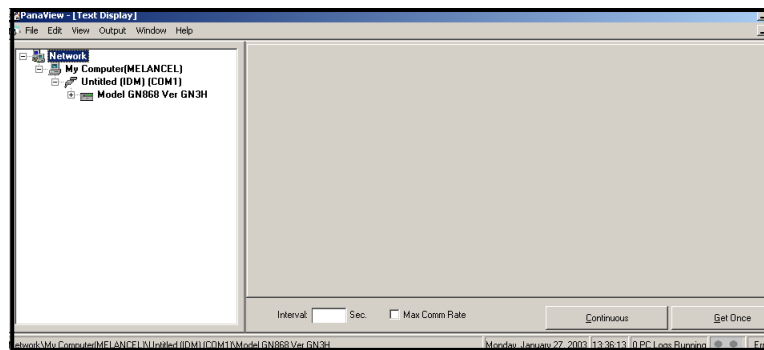

Figure 3: Text Display Window
3. Using the *Window* menu, arrange the open windows in the desired format. For this discussion, Figure 3 shows the *Text Display* window in its maximized (full-screen) size.
Note: Figure 3 has been compressed both vertically and horizontally for improved clarity.
5. Before actual data values can be displayed in the text pane, activate one of the following data collection modes (see Figure 3 on page 44):